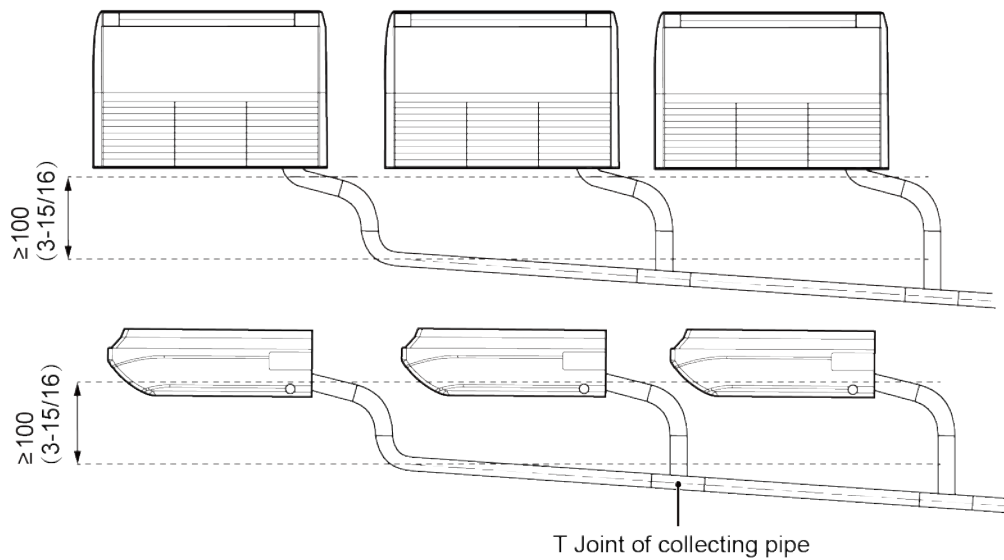

Fig.4.3.2.1
- (1) Drainage pipe should have the same diameter or larger diameter than the connection pipes (PVC pipe, outside diameter 17mm (11/16inch), thickness $\geq$ 1.75mm (1/16inch)).
- (2) Keep drainage pipe short and sloping downwards at a gradient of at least 1% for preventing forming air bubbles.
- (3) Insert the drainage hose into drain socket, tighten the metal clamp securely.
- (4) Warp the sealing pad over drain hose and metal clamp for heat insulation.
- (5) Make sure to perform insulation work for all drainage piping in order to prevent any possible water drop due to dew condensation.
- (6) Apply the suitable diameter for converging drainage pipe according to the operating capacity of the unit, as show in Fig.4.3.2.1.